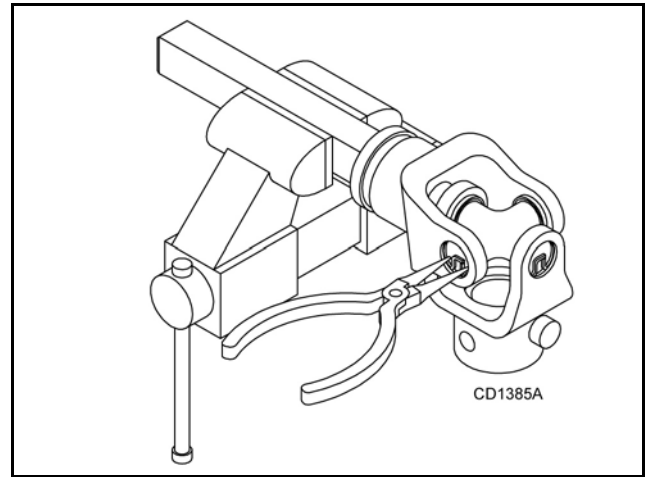

Figure 16
1. Remove external snap rings from yokes in four locations as shown in Figure 16.